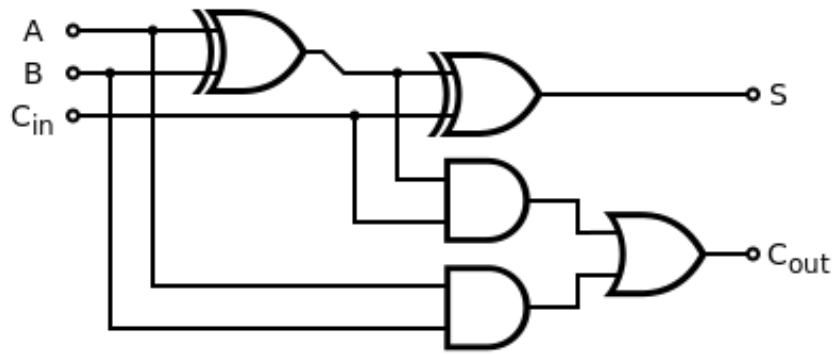

Figure 1.2
A full adder adds binary numbers and accounts for values carried in as well as out. The Full Adder (FA) module is composed of two instances of Half Adders and an OR gate as shown in Figure 1.2. The design is in file *fa.vhd*.